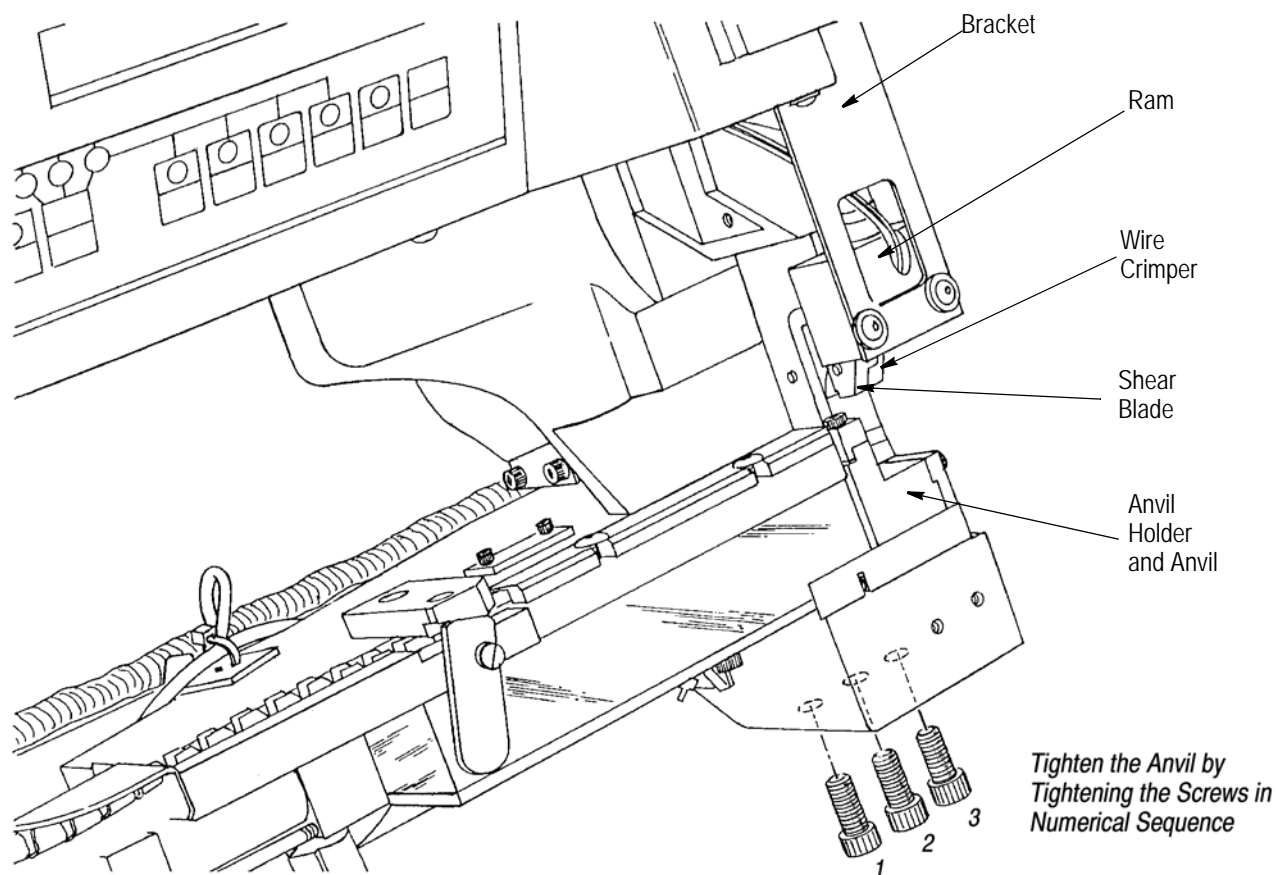

Figure 14
4.2. Tooling Alignment Procedure (See Figure 14)